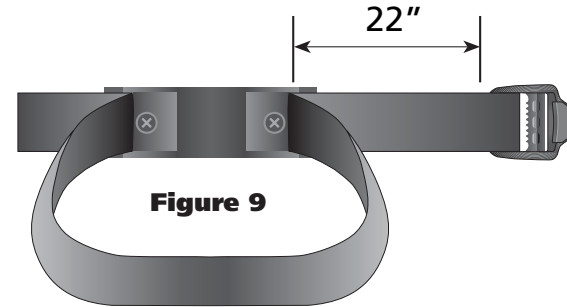

Figure 9
7. Adjust buckle end of strap so that it extends out of the mounting base 22" (see figure 9) the proper length for the model size of Bazooka you are installing.